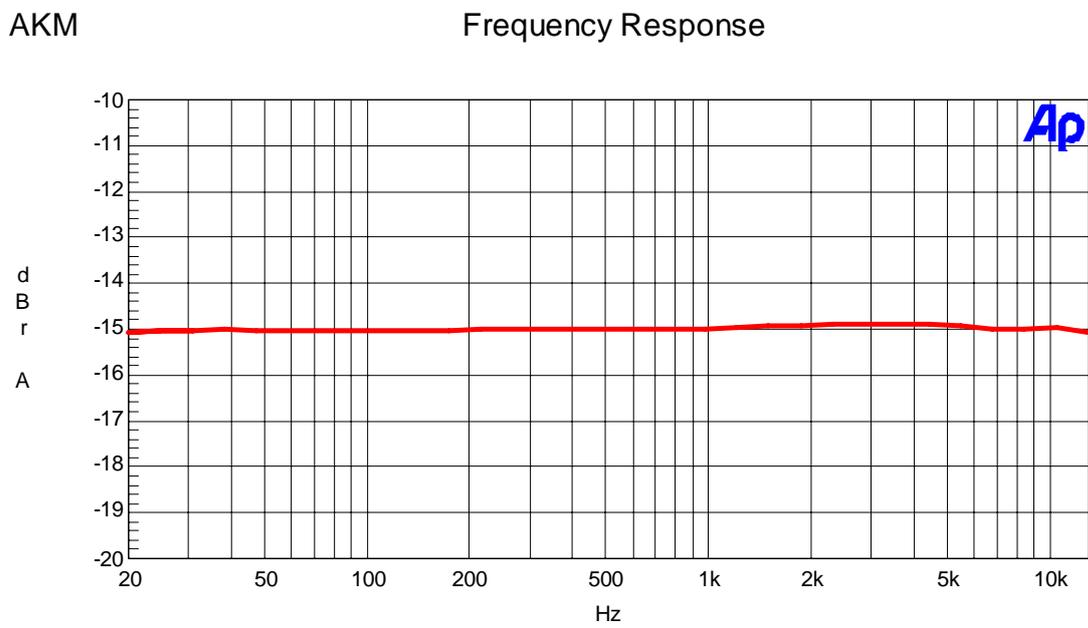

Figure. 19 Mono mode Frequency Response (-15dB)
- Figure. 19 : Frequency Response (-15dB)